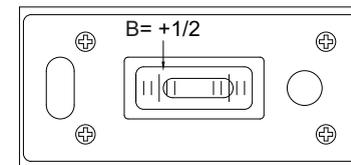

Fig.3
- b) Turn the level 180°, slide the level at the same position of the surface. After the bubble stops oscillating, read B on the scale (Fig.3).